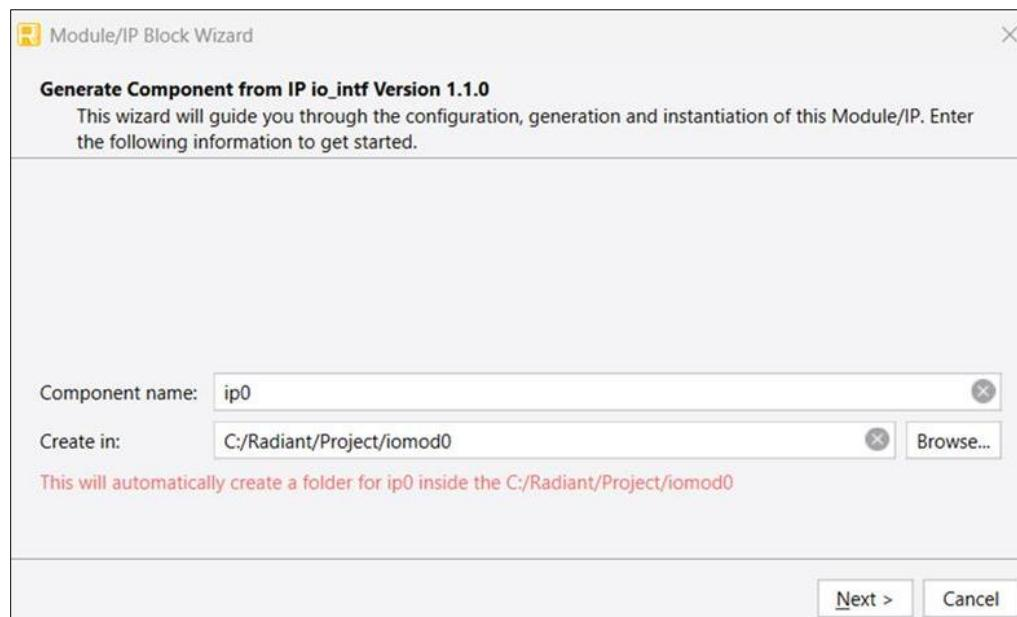

Figure 7.1. Module/IP Block Wizard
2. In the **IP Catalog** tab, double-click **I/O Interface** of the **Processors_Controllers_and_Peripherals** category under **IP**. The **Module/IP Block Wizard** opens, as shown in Figure 7.1. Enter values in the **Component name** and the **Create in** fields and click **Next**.
5. Click **Finish**. All the generated files are placed under the directory paths in the **Create in** and the **Component name** fields shown in Figure 7.1.